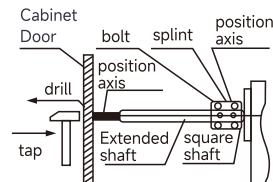

Figure 39
(3) As shown in Figure 39: Connect the extended shaft with the switch square shaft using a positioning clamp and accessory bolts, and tighten the positioning nails; Adjust the positioning axis so that its top is in contact with the cabinet door, and use a hammer to lightly tap the location from outside the cabinet to determine the drilling center; Then remove the positioning shaft and drill a hole of $\Phi 6$ from the inside of the cabinet door out at the center of the hole and then enlarge hole to $\Phi 30$.